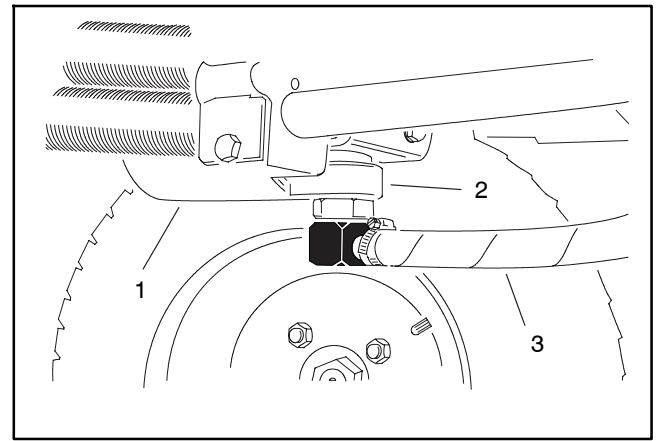

Figure 19
5. Place a suitable container under the hydraulic filter to collect the hydraulic fluid. The container should have a 6 gal. (23 Ltr.) minimum capacity. Disconnect the hydraulic hose below the filter head or remove the hydraulic filter element and drain the hydraulic system (Fig. 19).